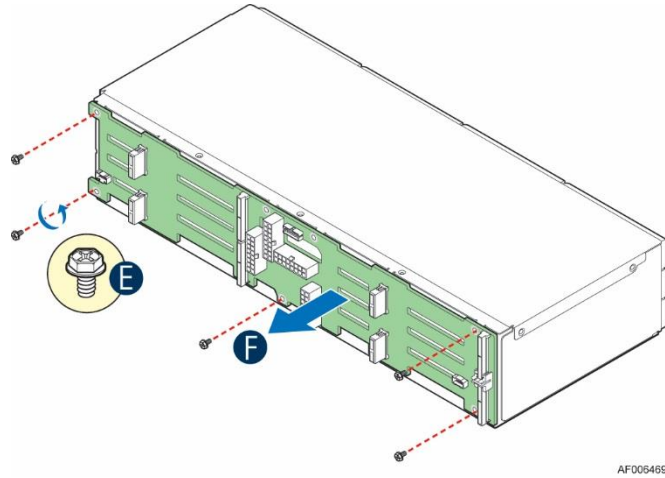

Figure 45. Removing the 12 x 2.5" backplane board from the drive cage
5. Remove the screws from the backplane board (E) and detach the backplane board from the drive cage (F) as pictured in Figure 45.